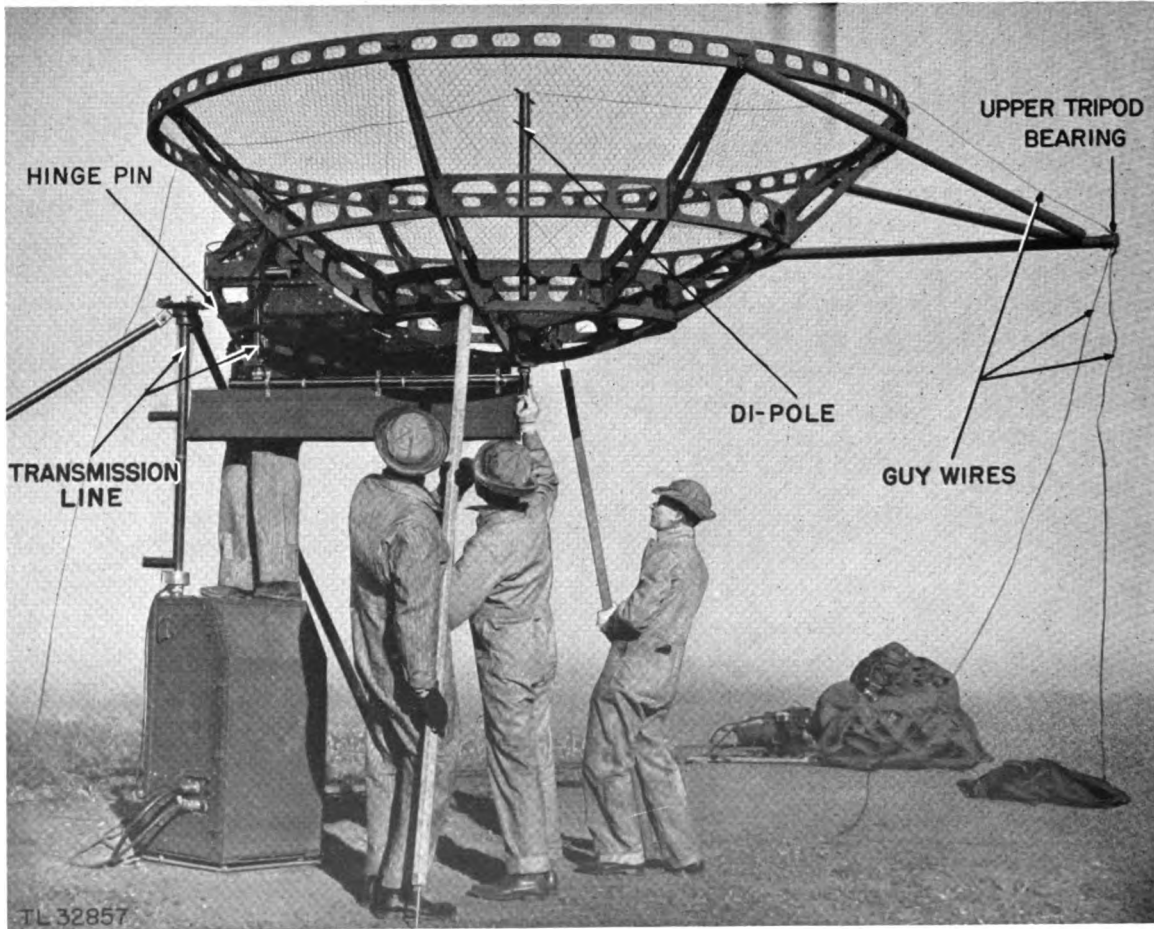
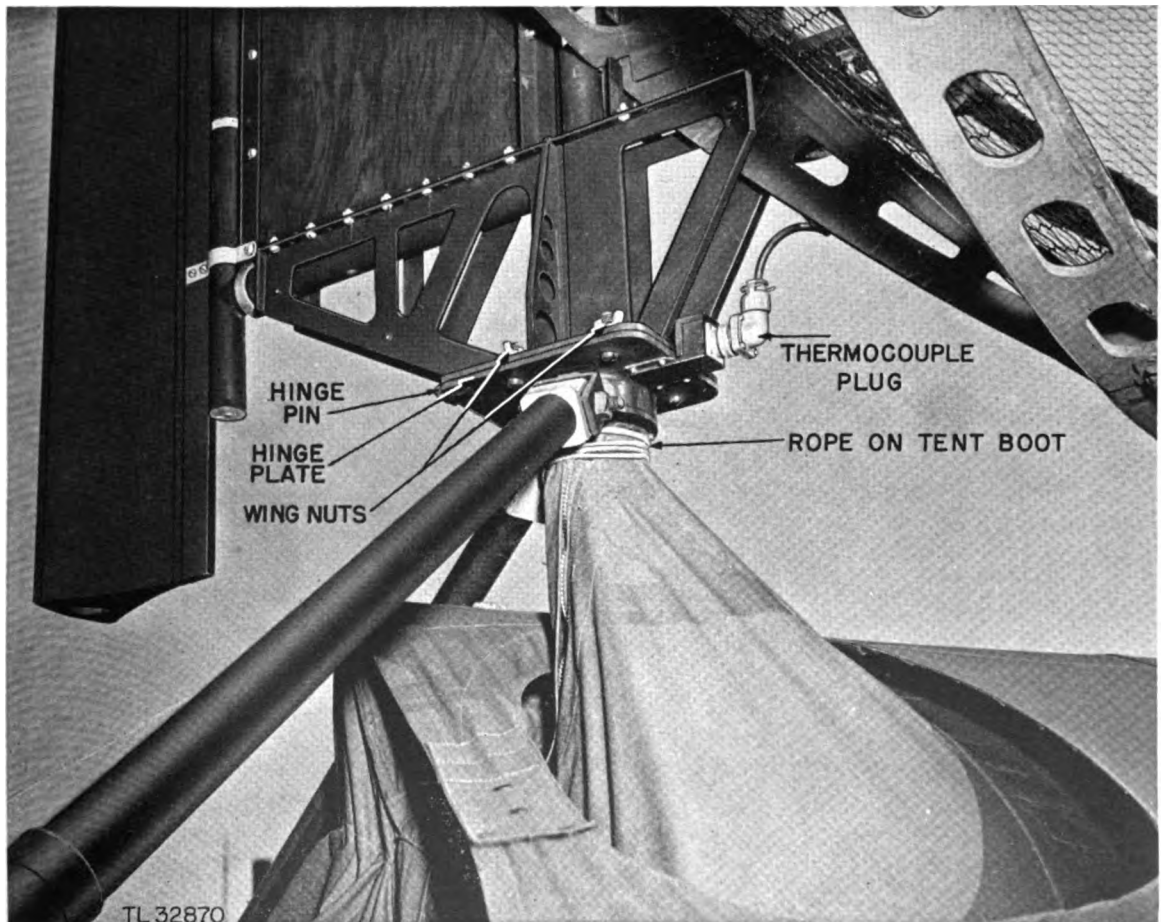

Figure 18. Erecting the antenna (a).
Figure 18a. Hinge plate assembly.
b. With the antenna approximately in place as shown in figure 18, let one man stand on the console and insert the hinge pin. The pin fits through the holes in the hinge plates on the mast and the hinge plates on the antenna (fig. 18a). The console will support the weight of one man, but he should keep his feet near the edges of the console.
are in the proper position to fall into the slot of the upper hinge plate (fig. 18a). The parabolic reflector is then ready to be swung up. Swing the reflector into place by using the two lifting poles, with some help obtained by pulling on one guy wire in the direction the antenna is being swung up. Be very careful that the parabolic reflector does not twist and damage the hinge plate or the transmission line. The two men with the lifting poles should push equally.